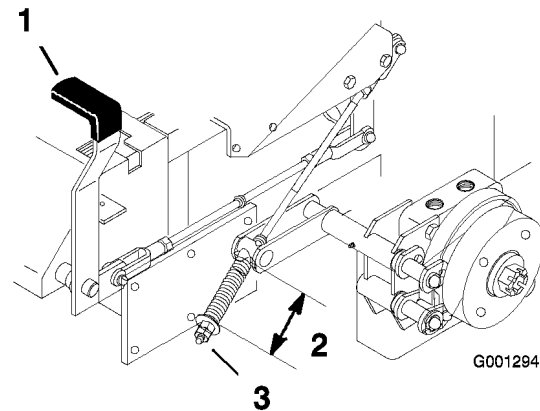

Figure 54
2. Measure the length of the spring. Measurement should be 2-1/2 inch (64 mm) between the washers (Figure 54).
3. If adjustment is necessary, release the parking brake, loosen the jam nut below the spring and adjust the nut directly below the spring (Figure 54). Turn the nut until the correct measurement is obtained. Turn the nut clockwise to shorten spring length and turn counter-clockwise to lengthen the spring.